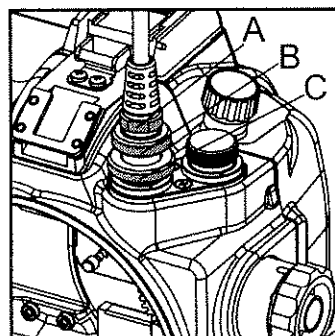

Fig.14
① for YS series strobe ② for TTL converter
1. Remove the bulkhead connector cap (Fig.14).